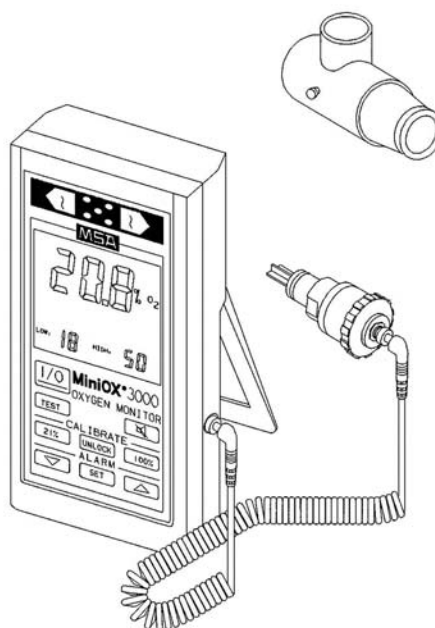

Figure 1-4. MiniOx 3000 Oxygen Monitor
**1-4.7 Oxygen Monitor.** A battery-operated oxygen monitor (see Figure 1-4), the MiniOX 3000 Oxygen Monitor, measures oxygen concentrations in the chamber as a percentage. The monitor incorporates the following features: